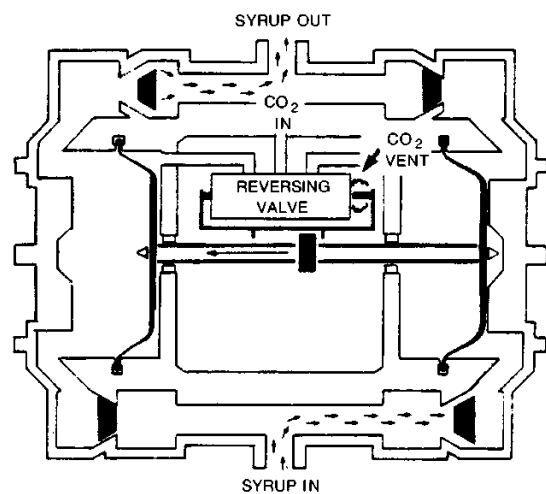

Figure 2
- C. When the Diaphragm Assembly reaches the end of its stroke, the reversing Valve switches and directs gas pressure to the left Gas Chamber while the right Gas chamber is allowed to exhaust gas. This causes the Diaphragm Assembly to move to the left (see Figure 2).
- D. As the Diaphragm Assembly moves to the left, syrup is forced out of the left side Chamber through Check Valve and Pump Outlet while syrup is sucked into right side Chamber through Inlet Check Valve. The syrup pump cycle will be repeated as many times as necessary to fulfill syrup needs of Dispenser [approximately five (5) ounces (147.9 ml) of syrup are pumped per cycle].
- E. The Syrup Pump will pull syrup from a non-pressurized package. The Pump will normally self-prime up to ten (10) feet (3.0 m).